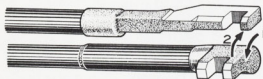

Fig. 9-24 Shift Forks Assembly G0351
- Turn the first and second shift fork shaft to the position (1) as shown in figure 9-24. Place the third and fourth shift fork onto the hub sleeve No.2. Install the inter-lock ball into the inter-lock hole. Install the inter-lock pin into the third and fourth shift fork shaft, then insert the shaft into the fork through the transmission case. Next, return the first and second shift fork shaft to position (2).